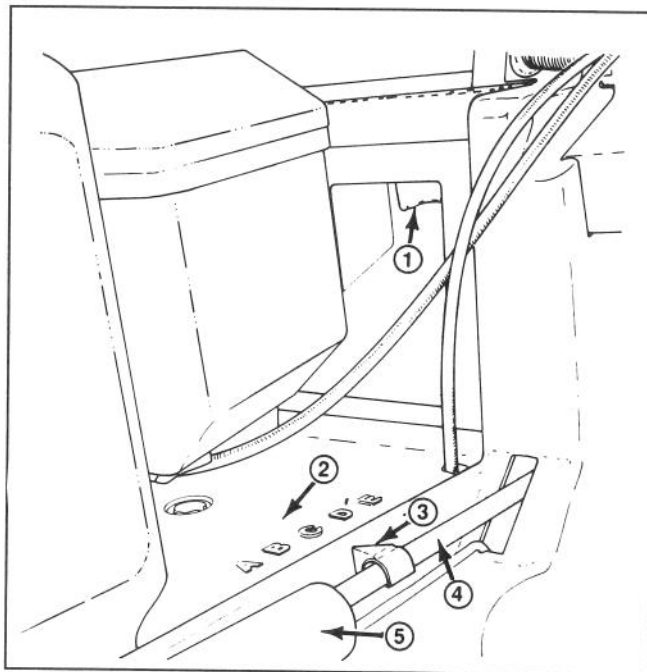

Figure 14
2. Use one or two fingers to squeeze the height-of-cut adjustment lever (Fig. 14).
1. Stop engine and wait for it to cool. Pull wire off spark plug (Fig. 14).